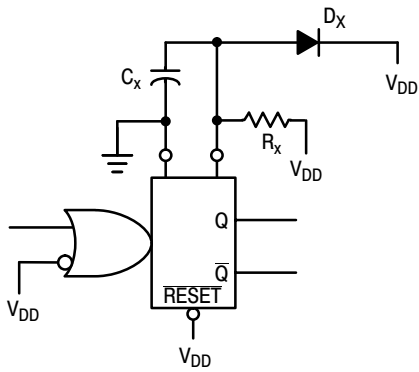

Figure 9. Use of a Diode to Limit Power Down Current Surge
6. If $C_X > 15 \mu\text{F}$, Use Discharge Protection Diode D_X , per Figure 9.